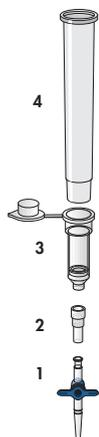

Figure 3. Assembly of components of the QIAamp MinElute Vacuum Kit.
5. Insert an Extension Tube into each QIAamp MinElute column (see Figure 3).